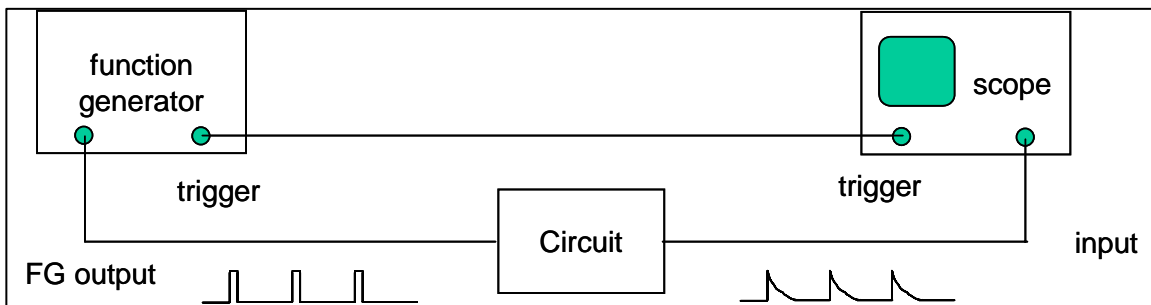

Figure 4. Experimental test setup for measuring the impulse and step response of the SUT.
The basic test setup is shown in Figure 4. The trick is to be able to create an “impulse” and a “unit step” waveform to test the system. Of course, we cannot create either of these two ideal waveforms in our part of the universe. However, we can create reasonable approximations.
1. Set up the laboratory equipment as shown in Figure 4. Be sure to use the higher frequency capability function generator (why?). Record your equipment setup diagram. Construct your RC circuit using the values of R and C you determined in the Prelab exercises. Calculate the *actual* time constant for your circuit using actual measured component values.
2. Determine the waveform setting for the function generator shown in Figure 4 for simulating an impulse waveform for this circuit. Record these settings on the setup diagram in your notebook, and justify them. What is the area of *your* lab impulse?
4. Determine the waveform setting for the function generator shown in Figure 4 for simulating a step input waveform for this circuit. Record these settings on the setup diagram in your notebook, and justify them.